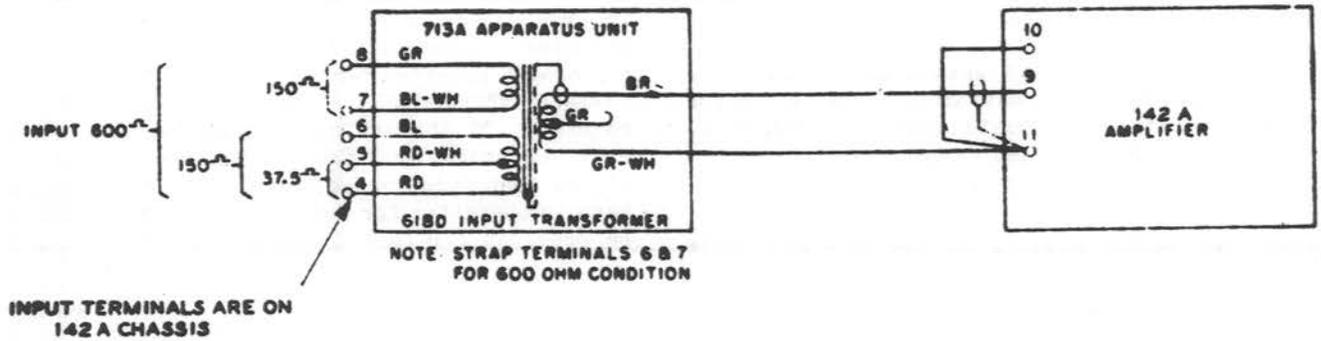

Fig. 5 - 142C Amplifier - Block Diagram
2.22 This amplifier consists of the basic 142A amplifier and a 713A apparatus unit. A block diagram of this amplifier is shown in Fig. 5. The 713A apparatus unit consists of a 618D input transformer that provides a choice of several line level transformer inputs. This transformer is magnetically shielded by a container of high permeability material against electromagnetic pickup, and may be rotated to a position of minimum pickup if exceptionally strong fields are encountered.